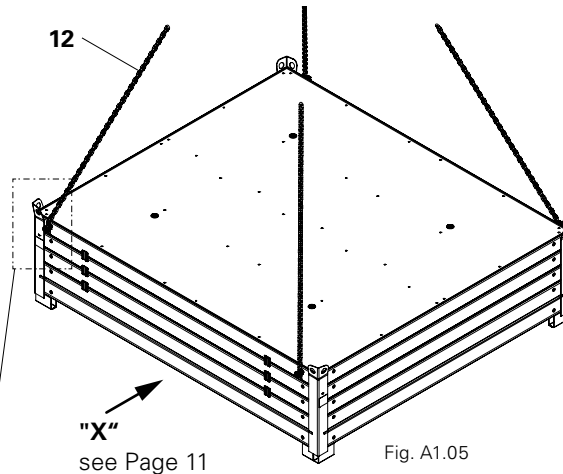

Fig. A1.05
- Turning the panels over is only necessary if the formlining side is facing upwards after it has been lowered. (Fig. A1.05)
1. Insert Locking Pins (12.1) of the lifting gear (12) into the drilled holes of the top panel as far as possible - 4x. (Fig. A1.05 + A1.05a + A1.05b)